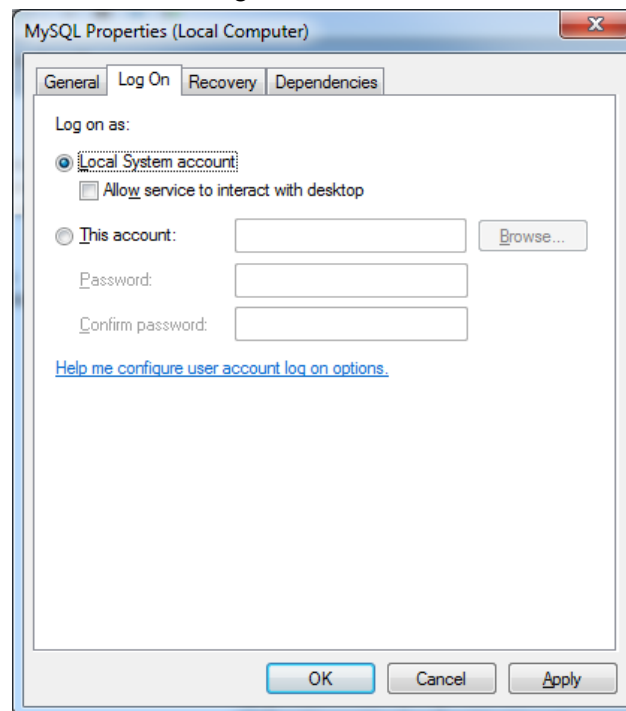

Figure 9 Service properties dialog.
- Select Local System account, see below Figure 9, and click OK.